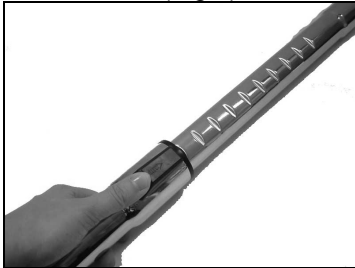

Fig 4
- To lengthen the telescopic wand slide the lock and pull the tube out (Fig 4).